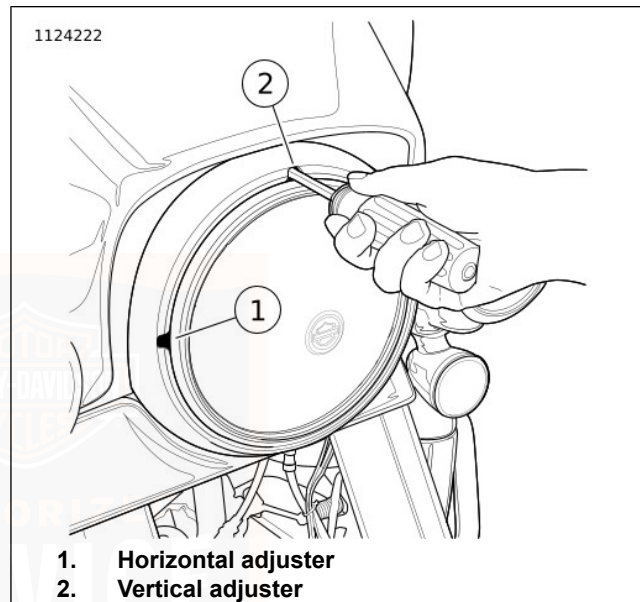
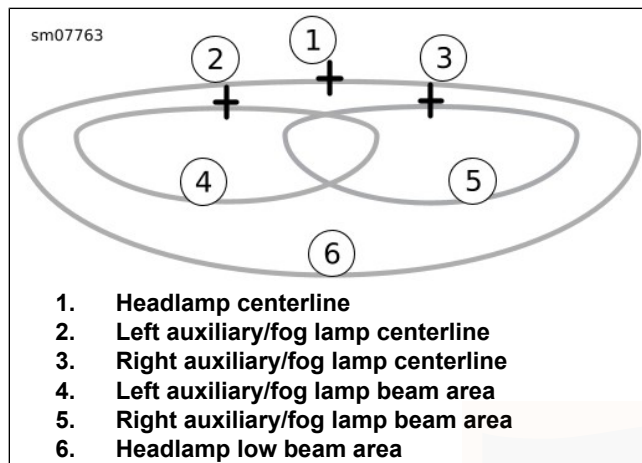

Figure 91. Headlamp Adjusters: All except Frame-Mounted Fairing (typical)
Figure 95. Headlamp Pattern: LED Type with Auxiliary/Fog Lamps
2. **All except frame-mounted fairing:** See Figure 91. Insert a 5/32 in ball end hex wrench through adjuster slots in trim ring.
- a. **Horizontal:** Turn the horizontal adjusting screw (1) to adjust light beam left and right.
- b. **Vertical:** Turn the vertical adjusting screw (2) to adjust light beam up and down.
- c. See Figure 94 or Figure 95. Adjust headlamp light beam.
4. See Figure 94 or Figure 95. Mark the auxiliary/fog lamp horizontal and vertical centerlines (2, 3) on the wall.
- b. **LED:** Adjust the left auxiliary/fog lamp so the entire high intensity zone (4) is below the centerline as shown in Figure 95.